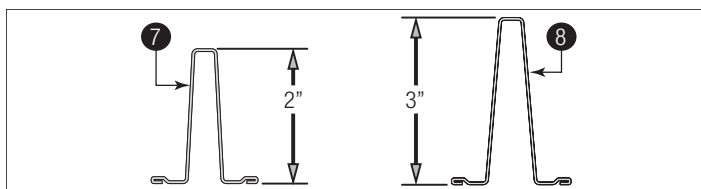

Figure 20
IMPORTANT: Measure the height of your strut(s) to determine if you have 2" Struts ⑦ and or 3" Struts ⑧. See Figure 20.